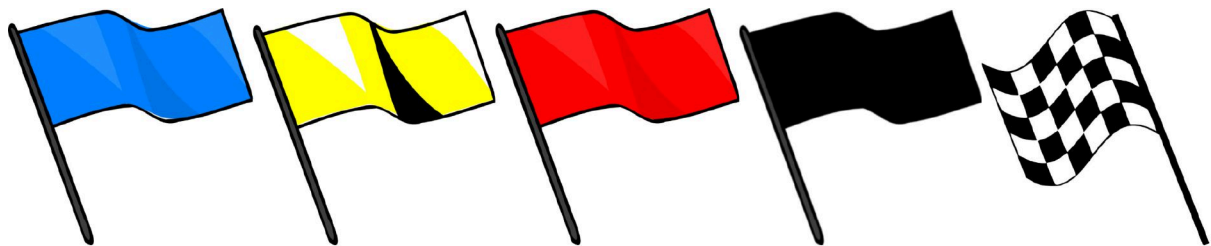

Figure 11: Flags used during EVelocity Racing Events.
- RE.6.3 There are five flag types, shown in Figure 11;